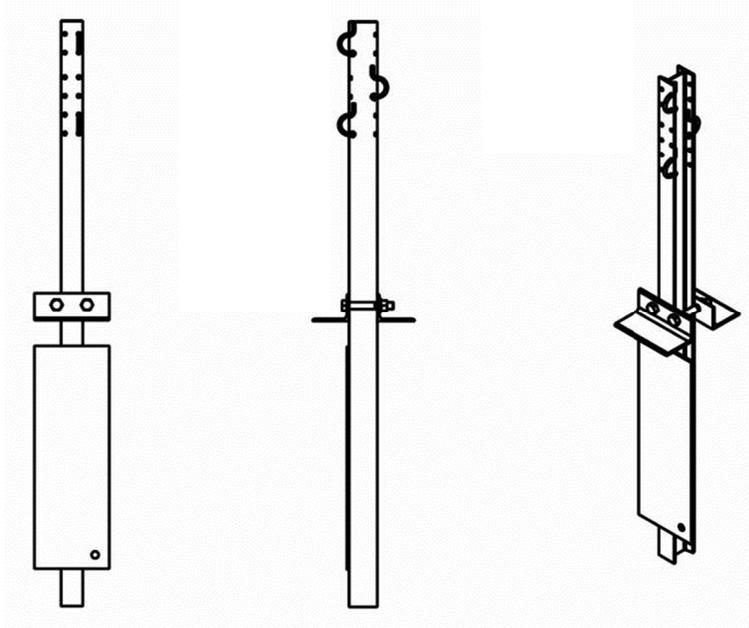

Figure 6 Bearing Angles for Post
3. Place a bearing angle (PN-9021G) on each side of the post 4 at the ground line (See Figure 6).
1. Place a bearing angle (PN-9021G) on each side of Post 1 at the ground line (See Figure 6).
2. Place two (2) hex head 3/4 inch (19 mm) bolts (PN-4779G) through the two (2) bearing angles. Place a 3/4 inch (19 mm) flat washer (PN-3701G) on the bolt. Place a 3/4 inch (19 mm) hex head nut (PN-3711G) on the bolt.